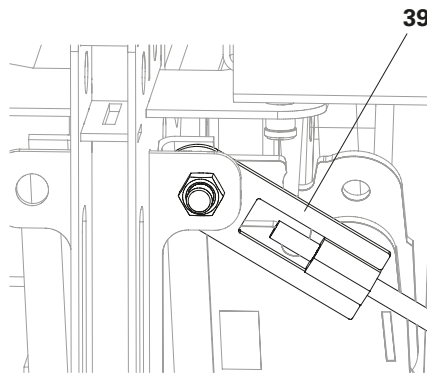

Fig. E3.01a
1. Dismantle the H-Load Tie Yoke DW15 ATG **(39)**. (Fig. E3.01a)